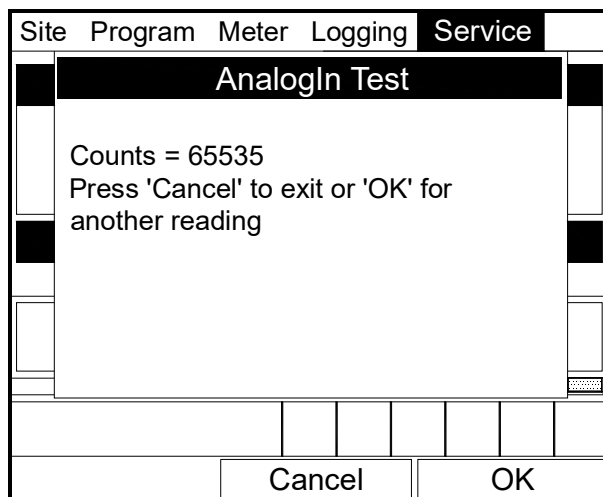

Figure 26: AnalogIn Test Window
To test an Analog Input, you must connect a current source to the analog input. Proceeding as above, select the Test AnalogIn option for the Analog In to be tested, and press [ENTER]. The screen appears as in Figure 26 below. It displays the analog input current RAW count from the A/D. When the input current changes, you can press [F3] (OK) to update the RAW count or [F2] (Cancel) to exit.